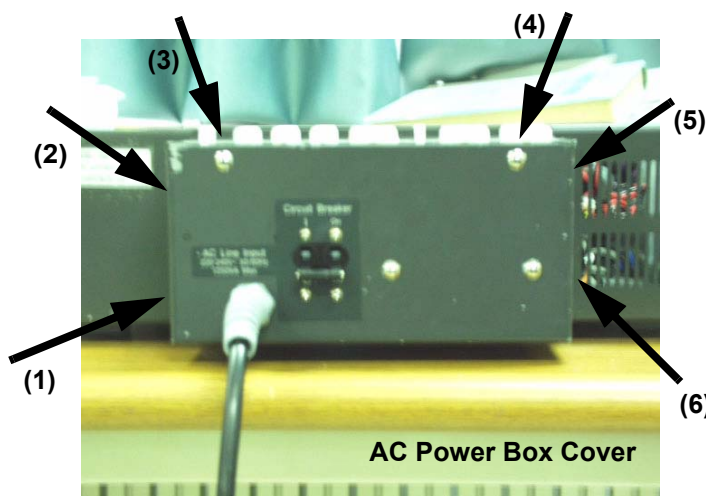

Figure 8-134 Unscrew 6 screws to remove AC Power Box
- 1.) Unscrew six screws (1-6) and remove the AC Power Box cover. Refer to Figure 8-134 on page 8-83 ..